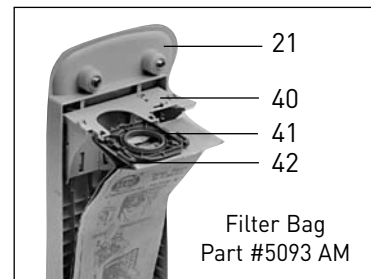

Figure 12
Changing the Filter Bag - Figures 12 & 13
2. Bag not inserted properly	2. Reinsert bag with cover release flap (20) up, until firmly latched in bag holder (see pg. 9, figures 12 & 13).